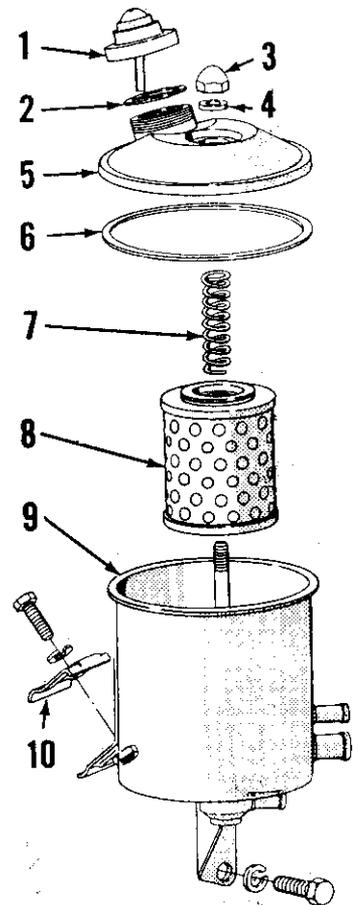

Fig. 6—Exploded view of power steering reservoir and filter assembly used on early models.
**10. FLUID AND BLEEDING.** Recommended power steering fluid is Ford M2C41-A oil. Maintain fluid level to full mark on dipstick (1—Fig. 6); reservoir assembly (5—Fig. 5) on early models is located under engine hood directly behind radiator. On late models, reservoir is mounted on pump (25). After each 600 hours of operation, it is recommended that the filter element (8—Fig. 6 or 3—Fig. 10) be renewed, any oil in reservoir be removed with suction gun and that the reservoir be refilled to full mark on dipstick with new, clean oil.